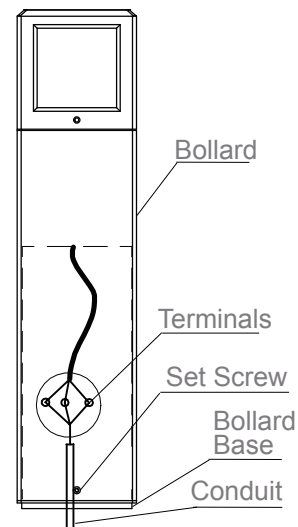

Figure3
4. Loosen the Set Screw (4) with an L-type Wrench (customer supplied), and remove the Bollard Base of the Bollard. See Figure 3.
7. Slide the Bollard over on Bollard Base. Be sure to check the LED position on the Bollard. See Figure 3.
8. Replace the Set Screws (4) to secure the Bollard to the Bollard Base. See Figure 3.